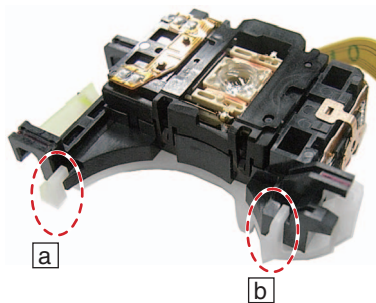
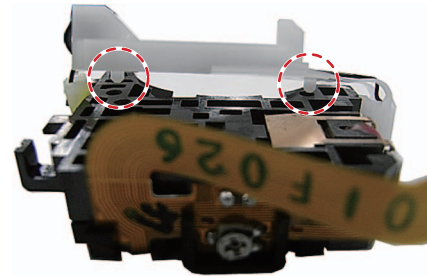

Fig. 3
Fig. 4
4. Remove the backend of the feed screw from the outer holder, by first sliding it, as shown in Fig. 3, then lifting it.
Note: When reassembling the PU unit, be sure to securely engage the PU unit with the part B of the chassis, as shown in Fig. 4. Also, be sure to change the engagement position of the bias spring of the feed screw to its original position (Fig. 2a). After reassembling, perform the PU adjustment, following the description in the service manual.
When reattaching the PU Rack to the PU, first reassemble parts a and b shown in Fig. 3 into the PU case then attach the boss shown in Fig. 4 to the PU case.